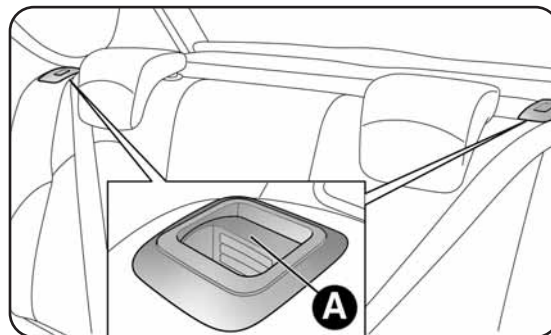

fig. 65
- raise backrest levers A-fig. 65 and fold the required cushion forward (when lever A is raised this is indicated by a red strip).
Lift up the backrests and push them back until a click is heard for both mechanisms. Make sure that red strip on levers A-fig. 65. is no longer visible; if it is, this indicates that the backrest has not engaged.